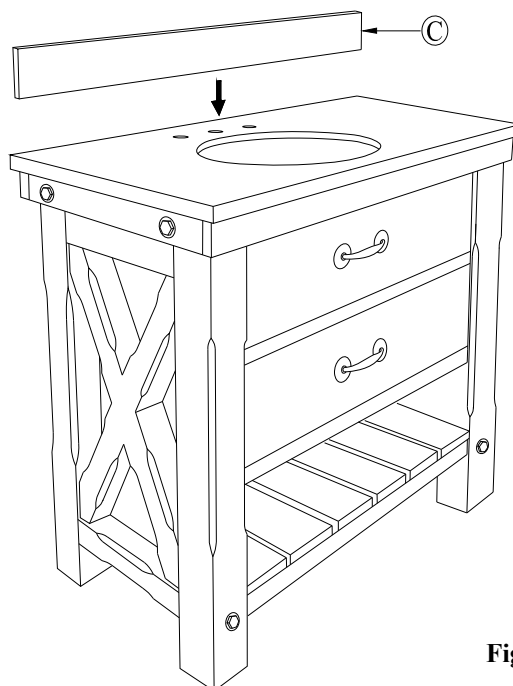

Fig. 3
- Use high quality silicone or acrylic based bath sealant to install back splash (C) in place (Fig.3), clean up any excess immediately with a clean damp rag. **DO NOT USE PLUMBERS PUTTY OR ANY OIL BASED SEALANT AS THIS WILL STAIN THE MARBLE.** Wipe off any excess wax or residue that may have accumulated around sink area.